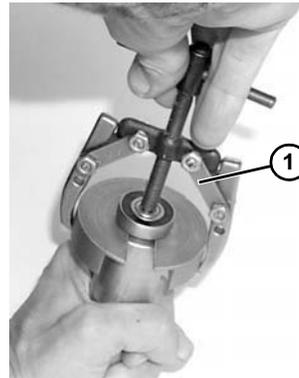

Figure 124
2. Using puller part #807-1716 (Figure 124, item 1), remove and discard bearing.